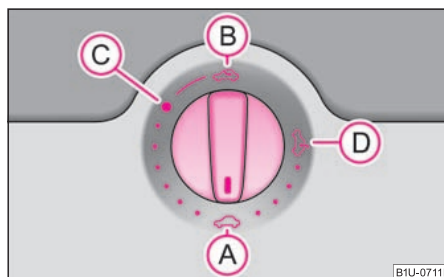

Fig. 42 Control dial for the power sliding/tilting roof
The sliding/tilting roof is operated by means of the control dial ⇒ fig. 42 and only functions when the ignition is switched on. The control dial has a number of positions.
- Turn the switch to position **(C)** ⇒ page 46, fig. 42.
- Turn the switch to position **(A)** ⇒ page 46, fig. 42.
The sliding/tilting roof is fitted with a force limiter. If an obstacle (e.g. ice) prevents closing, the sliding/tilting roof stops and opens completely. You can close the sliding/tilting roof completely without force limiter by pressing the switch to the **(A)** position ⇒ page 46, fig. 42 at the front for as long as it takes for the sliding/tilting roof to close completely ⇒ **(A)**.
It is necessary after each emergency operation (using Allen key) to move the sliding/tilting roof into the basic position. Here you have to turn the control dial forward to the switch position **A** ⇒ page 46, fig. 42 and press for about 10 seconds. ■